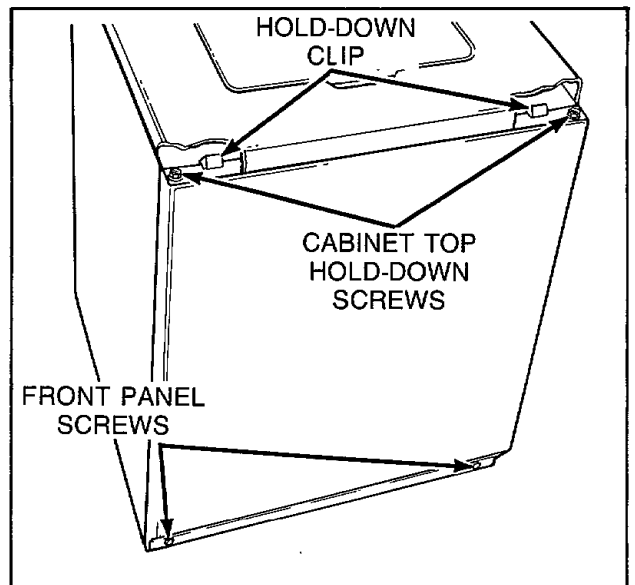

Figure 8
- d. Remove two screws from bottom edge of front panel, *Figure 8*.
- e. Pull bottom of panel away from washer until hold-down clips (located on top flange of panel) disengage from slots in cabinet top, *Figure 8*.
- f. Remove two cabinet top hold-down screws, *Figure 8*.